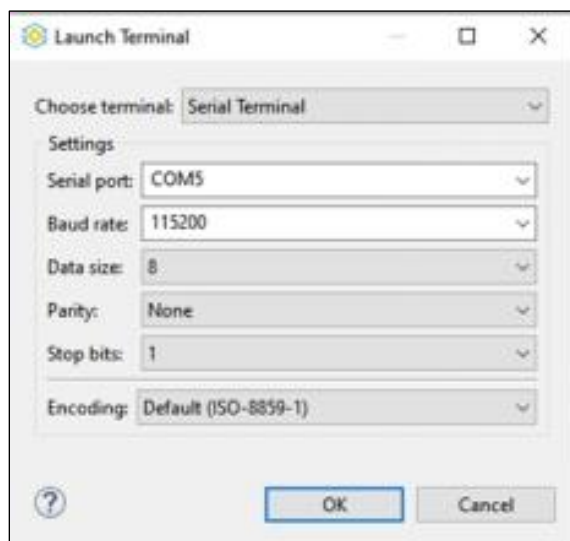

Figure C.3. Propel terminal – Com and Baud Rate Selection
10. Choose **Serial Terminal** for the terminal as shown in Figure C.3.